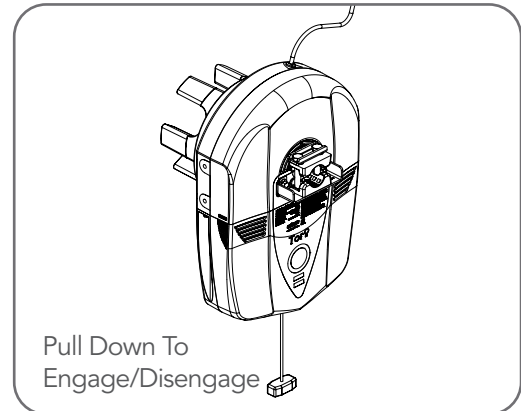

Fig 8.1
- Move the door to half way open. If necessary, disengage the opener by pulling the cord down (Fig.8.1). Re-engage the opener by pulling the cord down again.